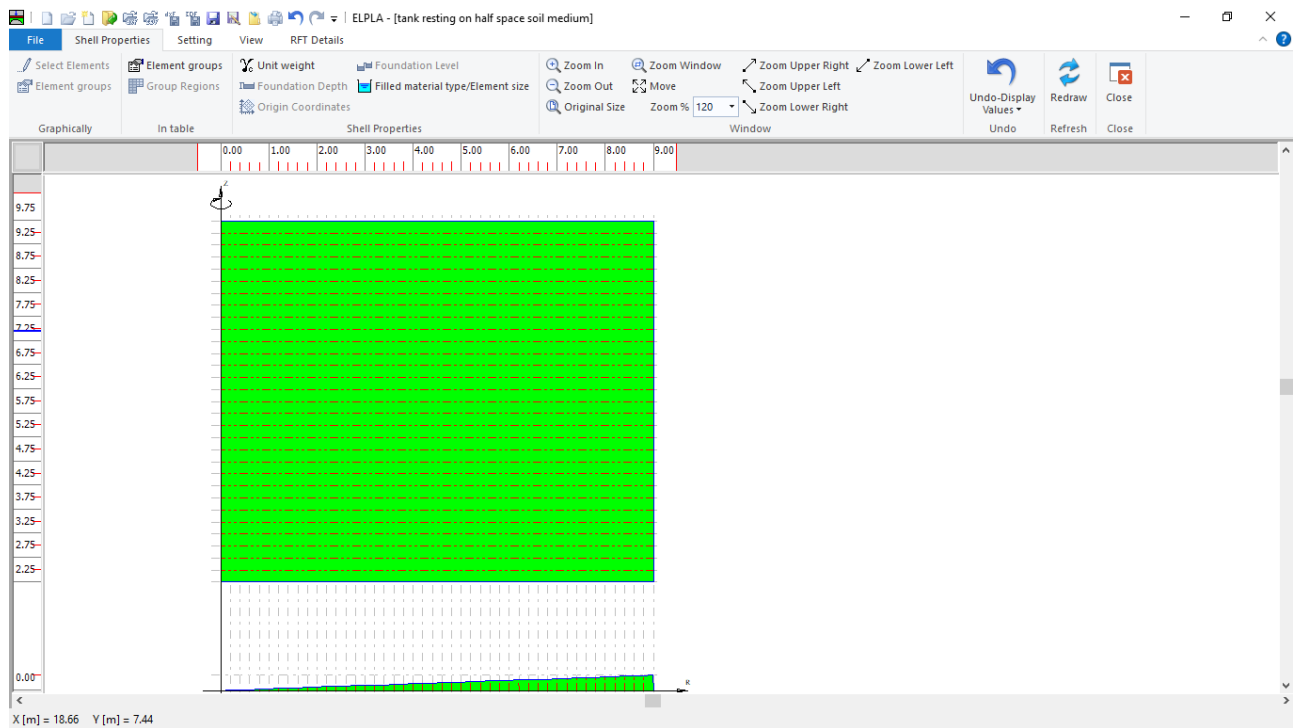
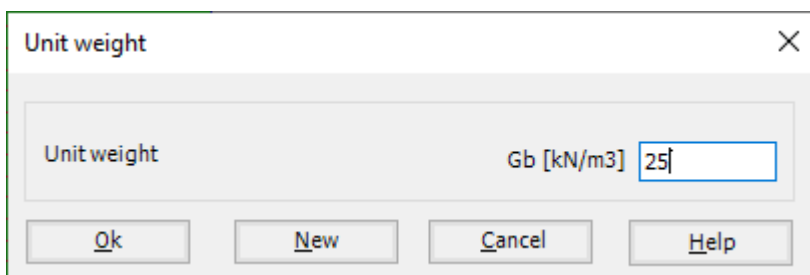

Figure 8.12 "Shell Properties" Window
Figure 8.14 "Unit weight" dialog box
To define the tank properties, choose "Shell Properties" command from "Data" Tab. The following window in Figure 8.12 appears with default shell properties. The data of shell properties for the current example, which are required to be defined, are element groups, unit weight of the tank, and filled material properties.
To enter the unit weight of the tank, choose "Unit weight" command from "Shell Properties" menu in Figure 8.12. The following dialog box in Figure 8.14 with a default unit weight of 25 [kN/m³] appears, click "OK" button.
To define the liquid properties of the shell, choose "Filled material type/Element size" command from "Shell Properties" menu in Figure 8.12. The following form in Figure 8.15 appears.
- Choose "Save" command from "File" menu in Figure 8.12 to save the shell properties
- Choose "Close" command from "File" menu in Figure 8.12 to close the "Shell properties" window and return to *ELPLA* main window